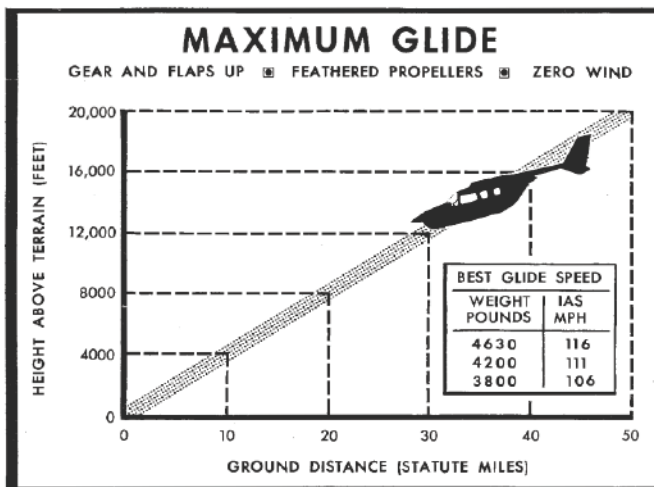

Figure 3-4.
In the event both engines are out, maximum gliding distance can be obtained by maintaining indicated airspeeds (with landing gear and wing flaps retracted and propellers feathered) as shown in the Maximum Glide Diagram, Figure 3-4.
- (1) Airspeed -- 115 MPH (or as shown in Figure 3-4).
- (2) Seat Belts and Shoulder Harnesses -- SECURE.
- (3) Propellers -- FEATHERED.
- (4) Mixtures -- IDLE CUT-OFF.
- (5) Fuel Selectors -- FUEL OFF.
- (6) All Switches (except Battery Switch) -- OFF.
- (7) Landing Gear -- DOWN (if field is smooth and hard).
- (8) Upper Cabin Door Section -- UNLATCHED.
- (9) Wing Flaps -- AS REQUIRED (full down recommended).
- (10) Airspeed -- 90 MPH with flaps full down.
- (11) Battery Switch -- OFF.